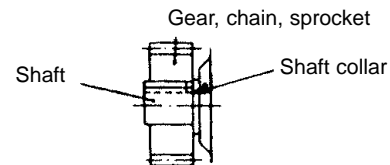

Fig. 12
- a) Set the connecting device such as coupling, chain, sprocket, gear or V-pulley on the shaft as close to the shaft collar as possible, unless specifically required so that a loading point comes between the shaft centre and the shaft collar (Fig. 12).